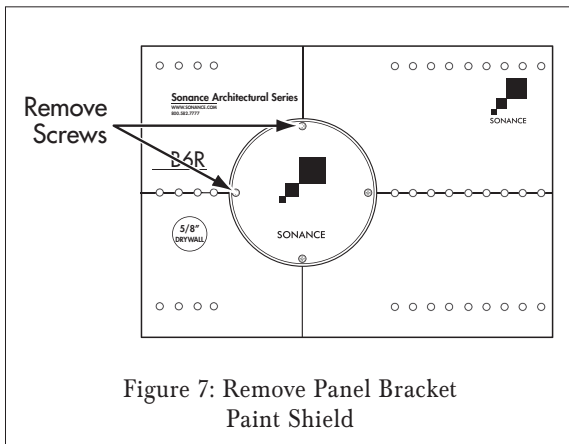

Figure 7: Remove Panel Bracket Paint Shield
1. Use a Phillips screwdriver to remove the four screws that attach the paint shield to the Architectural Series Panel Bracket (see *Figure 7*).